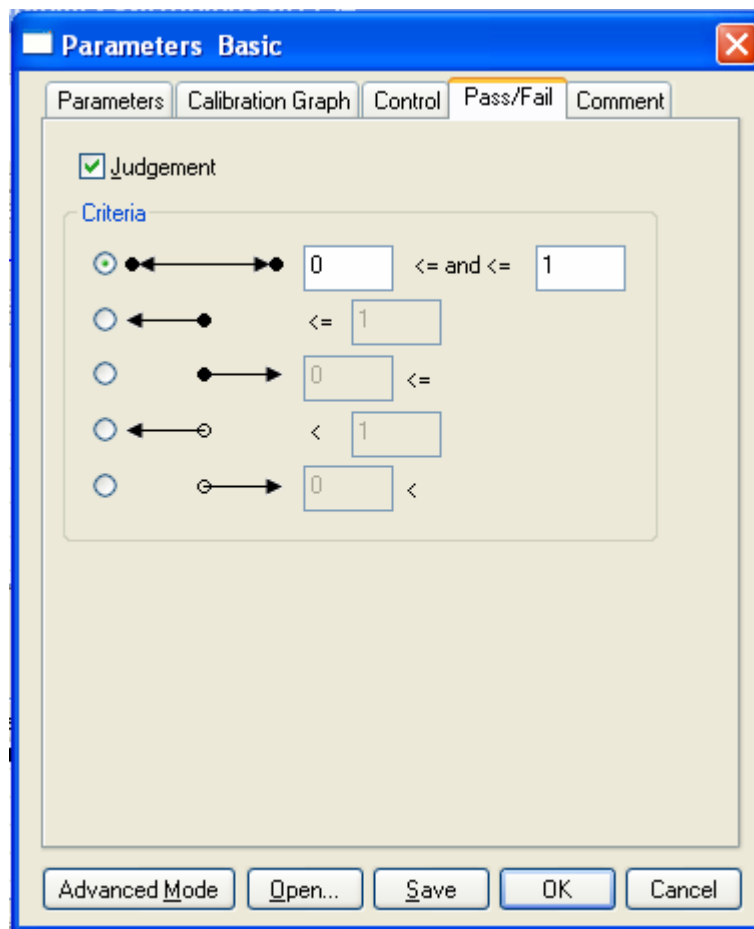

Figure 5.7 [Parameters Basic] Dialog, [Pass/Fail] tab
(4) Click on the [Pass/Fail] tab (see Fig. 5.7).